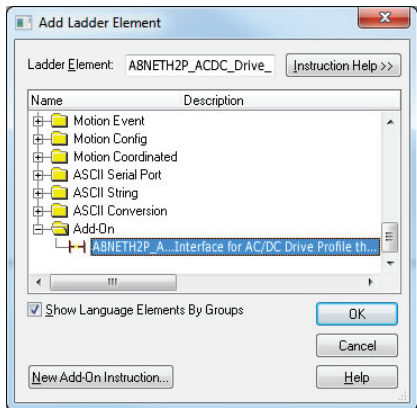

Figure 54: Add AC/DC Drive Profile Add-On Instruction
- 8) Select the AC/DC drive profile add-on instruction in the Add-On folder. Refer to Figure 54.